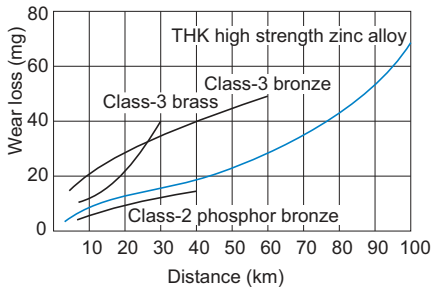

Fig.1 Wear Resistance of the High Strength Zinc Alloy
With a sliding bearing, a pV value, which is the product of the contact surface pressure (p) and the sliding speed (V), is used as a measuring stick to judge whether the assumed model can be used. Use the corresponding pV value indicated in Fig.1 as a guide for selecting a lead screw nut. The pV value varies also according to the lubrication conditions.
Fig.1 pV Value